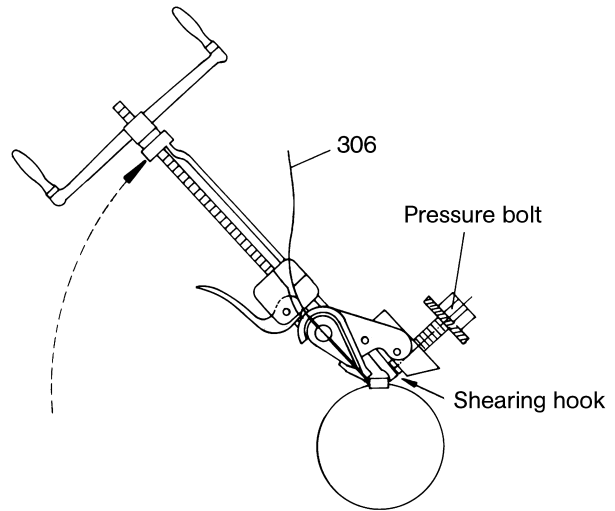

Figure 12: Shearing off the clamping bands.
- Check that the clamping band (306) fits into the groove of the cover sleeve (308) around the entire circumference.
- Slowly pivot the clamping tool upwards by approx. 60°, until the shearing hook grips behind the clamping band lock (see Figure 12).